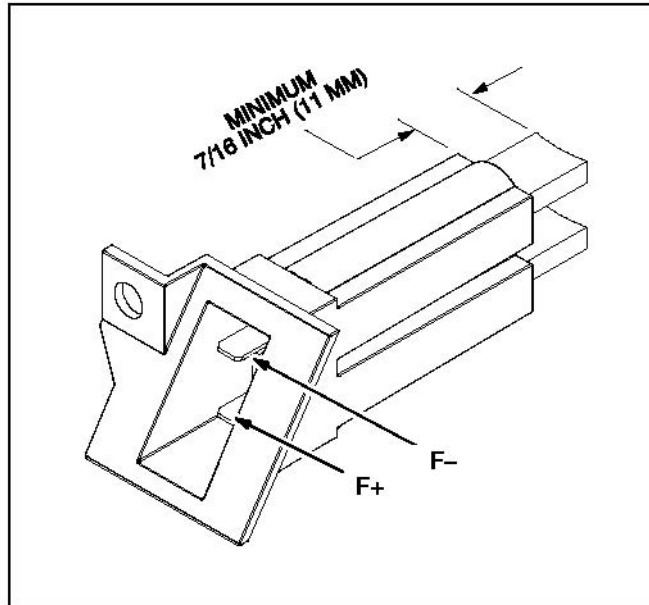

FIGURE 28. BRUSH BLOCK
1. Disconnect the field leads from the brush block (Figure 28).